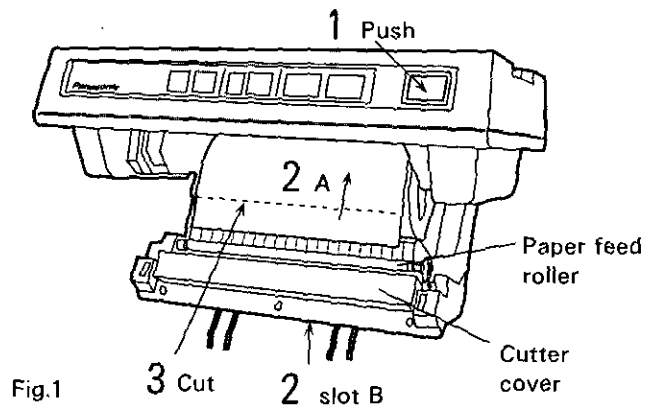

Fig.1
3. Cut the paper as shown in Fig. 1.